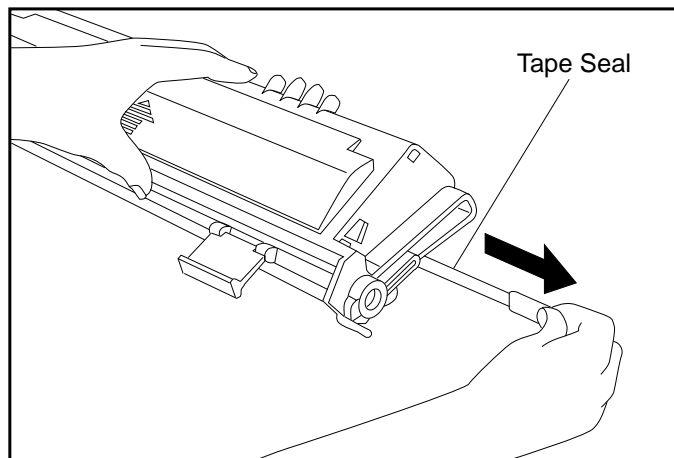

Fig. 2.9 Remove the Toner Sealing Tape
5. Gently flex the orange tab on the end of the sealing tape back and forth until it becomes loose. Then, pull the tab and tape from the toner cartridge and discard it (fig. 2.9).